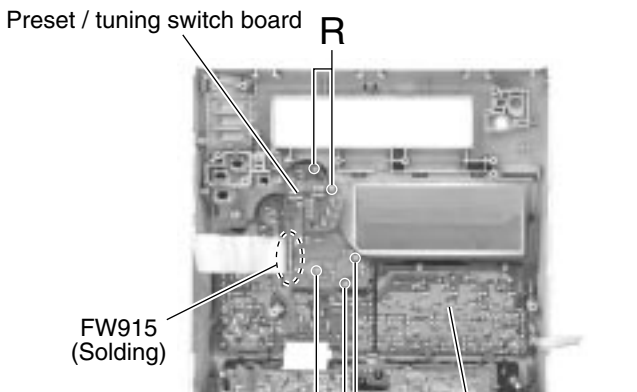

Fig.36
■ **Removing the preset / tuning switch board** (See Fig.36 and 37)